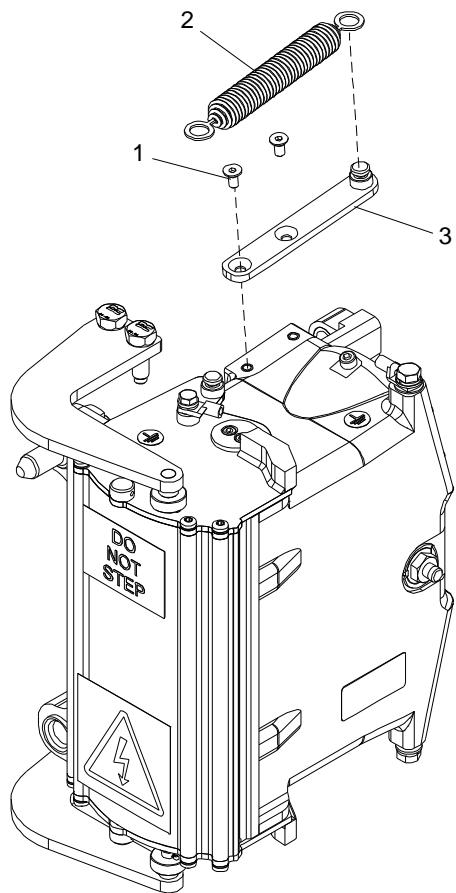

Figure 7-20: Replacement of Spring Bracket
2. Unhook the spring (2) from the spring bracket (3). See Figure 7-20
3. Remove the spring bracket (3) by removing the screws (1).
2. Fit the spring bracket (3) and mount the screws (1). See Figure 7-20.
3. Fit the spring (2) to the spring bracket (3).